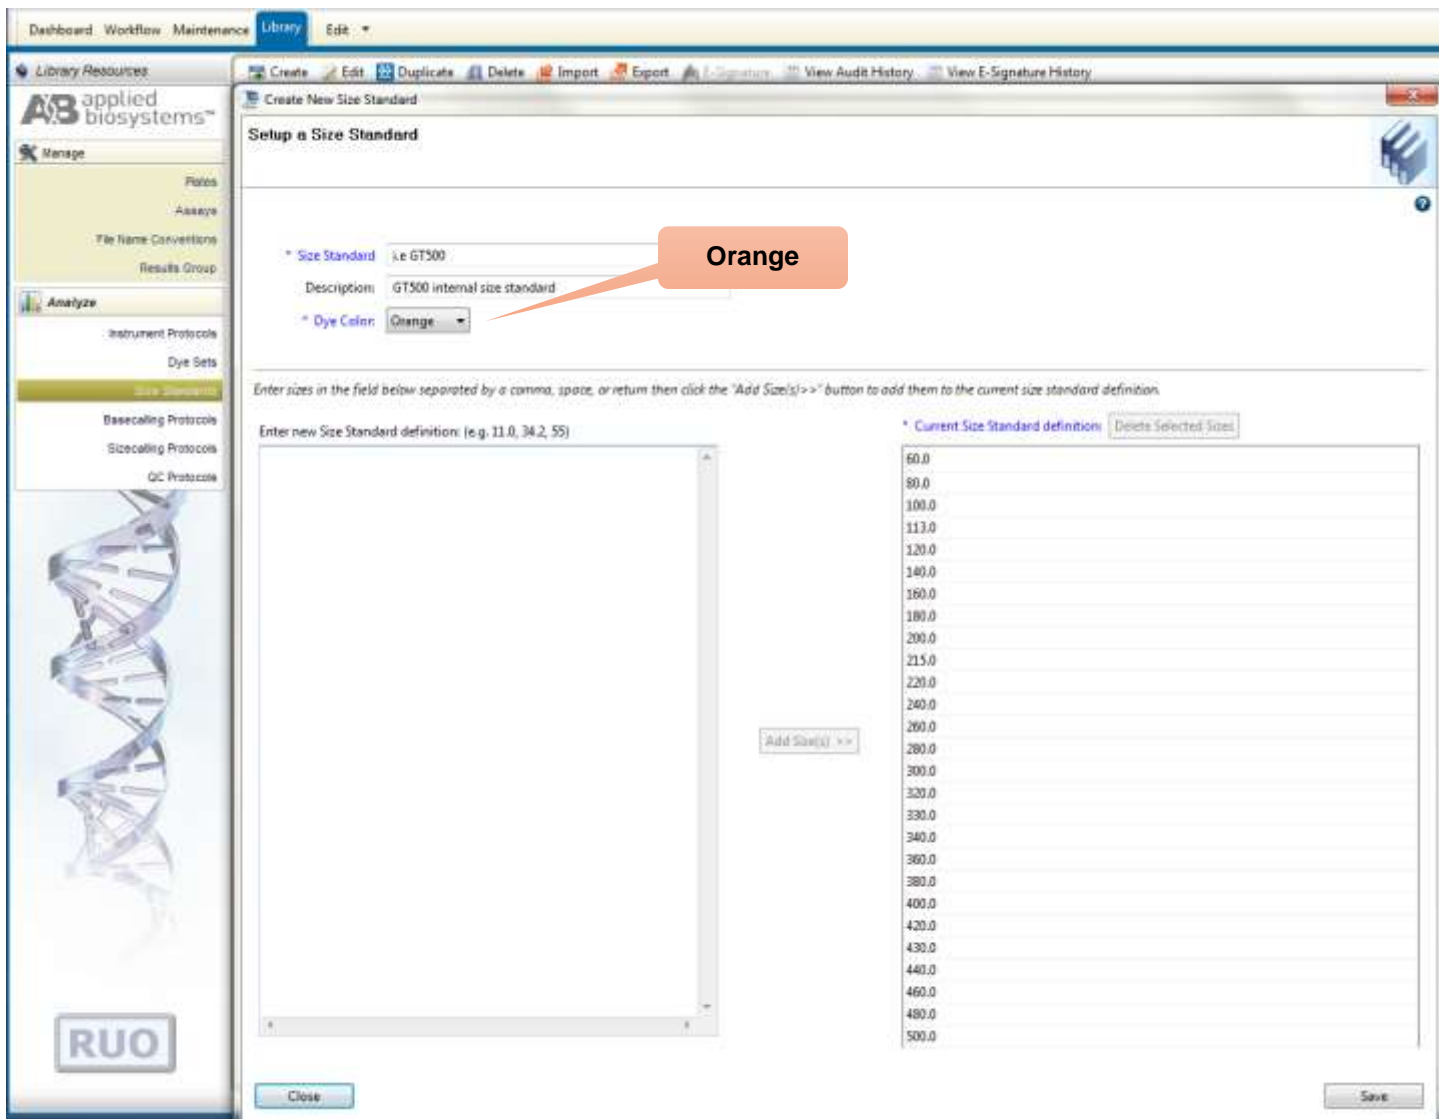

Figure 6. Screenshot for the “Create New Size Standard” window on Applied Biosystems 3500 Data Collection software
- c) Select “Create” (Figure 6)
Users can select settings as shown in the Figure 6 or alternatively may define these settings based on internal validation condition for GT HapScreen® HBB on the Applied Biosystems® 3500/3500xL Genetic Analyzer.